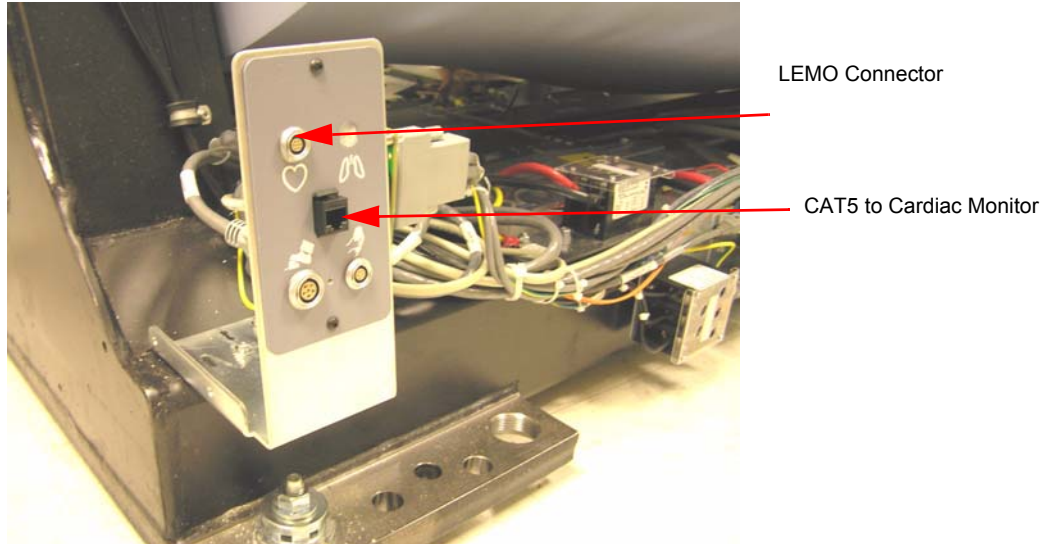

Figure 2-31 Cardiac Option Board
- 2.) Connect the LEMO and CAT5 to the Gantry option board. (See Figure 2-31.)